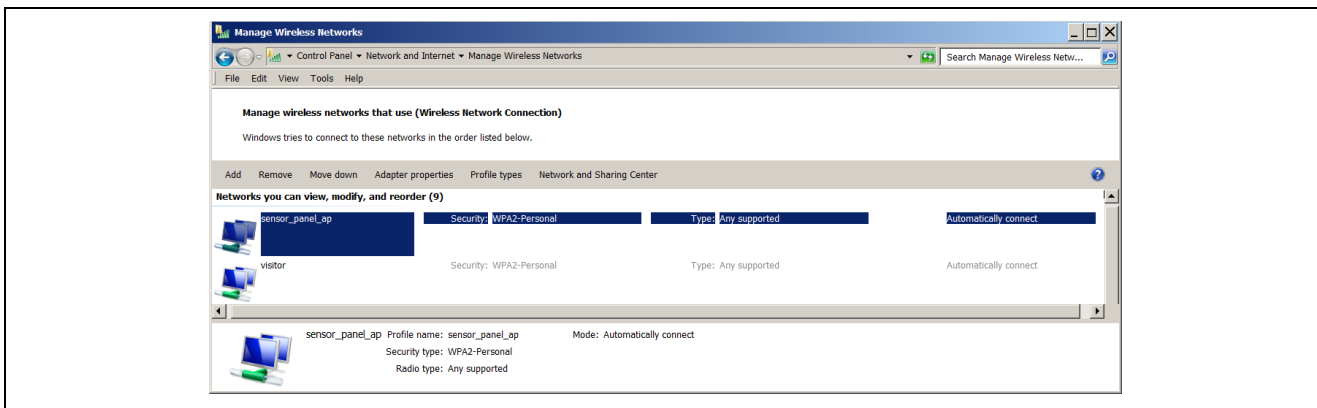
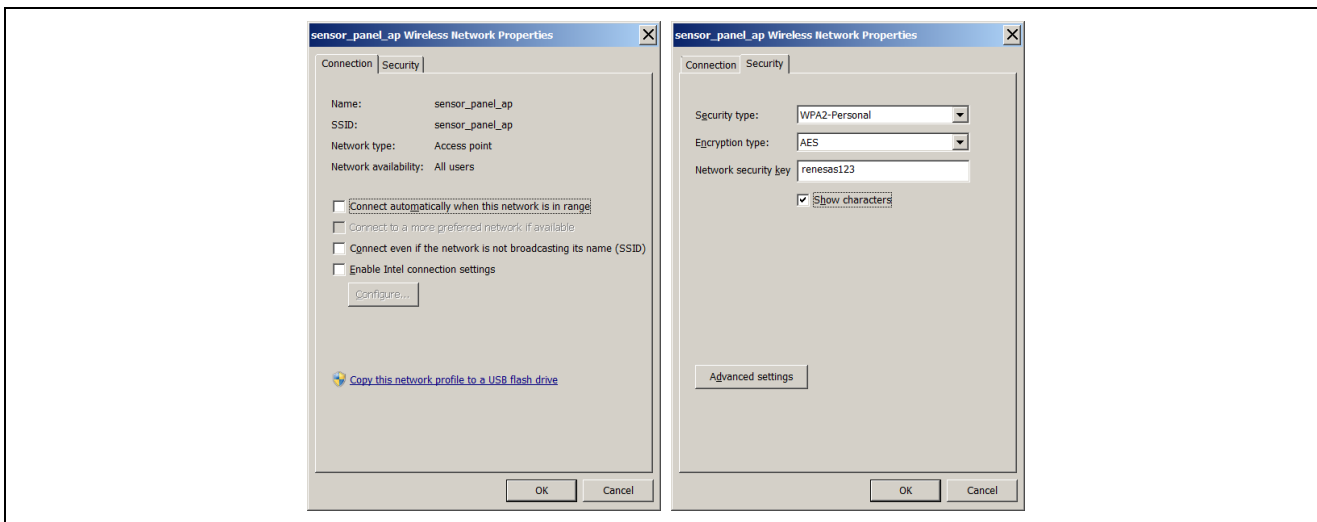

Figure 6 Setup Wireless Network
Figure 7 Setup Wireless Properties
- Step 3.** Open Manage Wireless Networks Windows in the PC as shown in Figure 6. Then, select sensor_panel_ap and double click on sensor_panel_ap to popup Wireless Network Properties Windows, which shown in Figure 7.